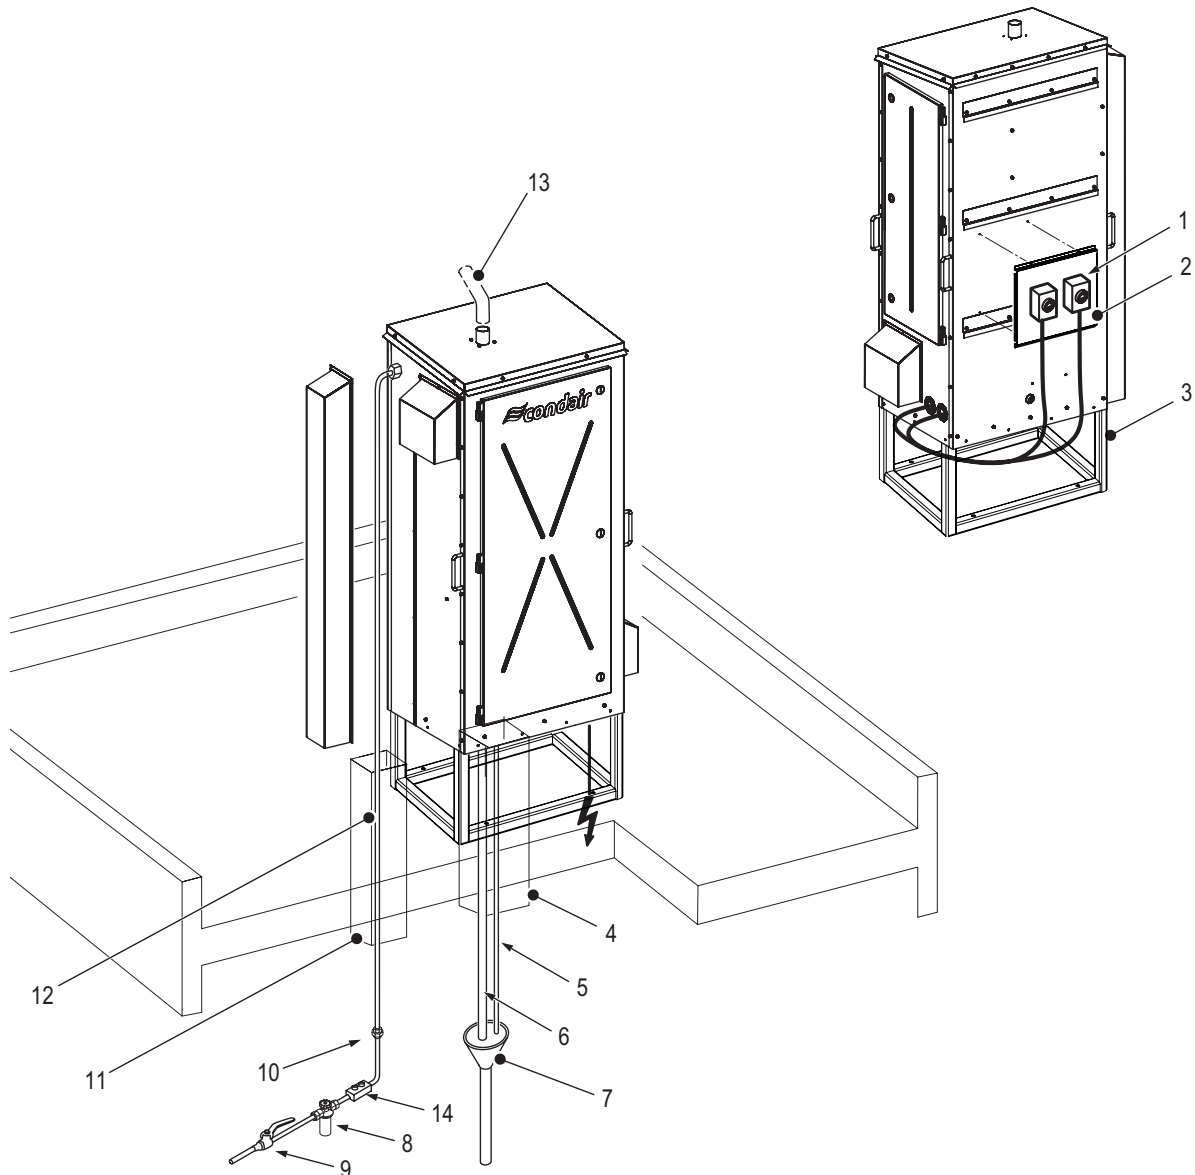

Fig. 6: Typical Installation on Mounting Rack (medium size unit shown)
- mounted on a mounting rack, see Fig. 6 in chapter 5.2.2
- Note 4:** The air gap funnel should be located inside the building (recommended), as shown in Fig. 6, and connected to a dedicated building drain (recommended) with a drainage capacity of at least 30 l/min for an EL-OC unit and for a RS-OC unit – per steam cylinder. The drain line exiting the funnel should have a minimum inner diameter of 40 mm. The drain lines into the funnel must not touch the sides or bottom of the funnel. In large units, separate air gap funnels must be used for drain lines from each cylinder.